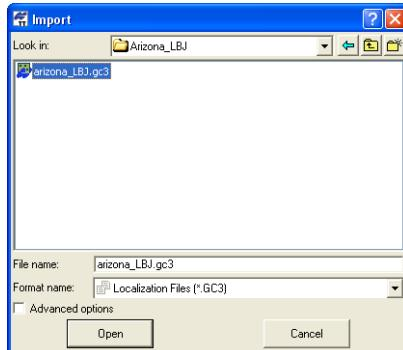

Figure 3-22. Import Localization File
4. Click **Open** to import the file (Figure 3-22 on page 3-24).